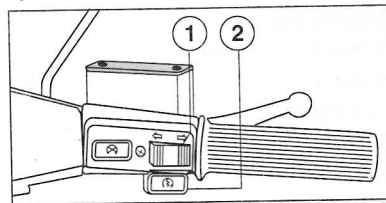

Fig. 5
*Stella* has an auto push button start located just below the turn signal light switch (fig.5), as well as an optional kick-start. The auto start circuit is operated by a 12 volt - 9 Ah battery.